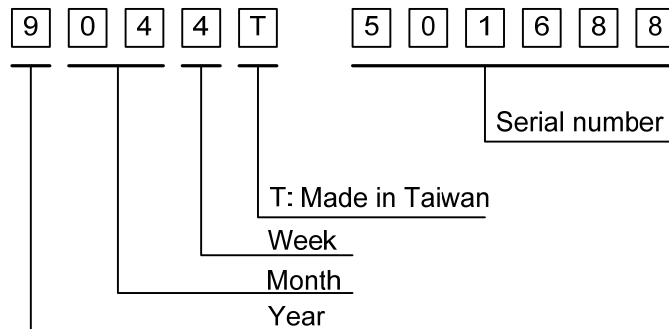

Fig. 14.1
1) The lot mark is showing in Fig.14.1. First 4 digits are used to represent production lot T represented made in Taiwan and the last 6 digits are the serial number.